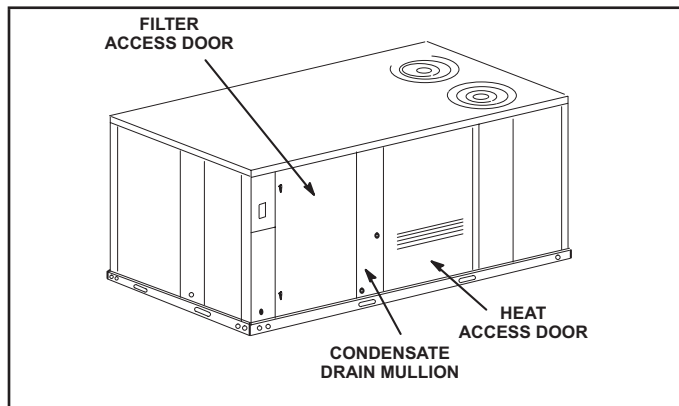

FIGURE 5
- 1 - Remove heat access door. See FIGURE 5.
- 1 - Open blower and heat access doors. See FIGURE 5.